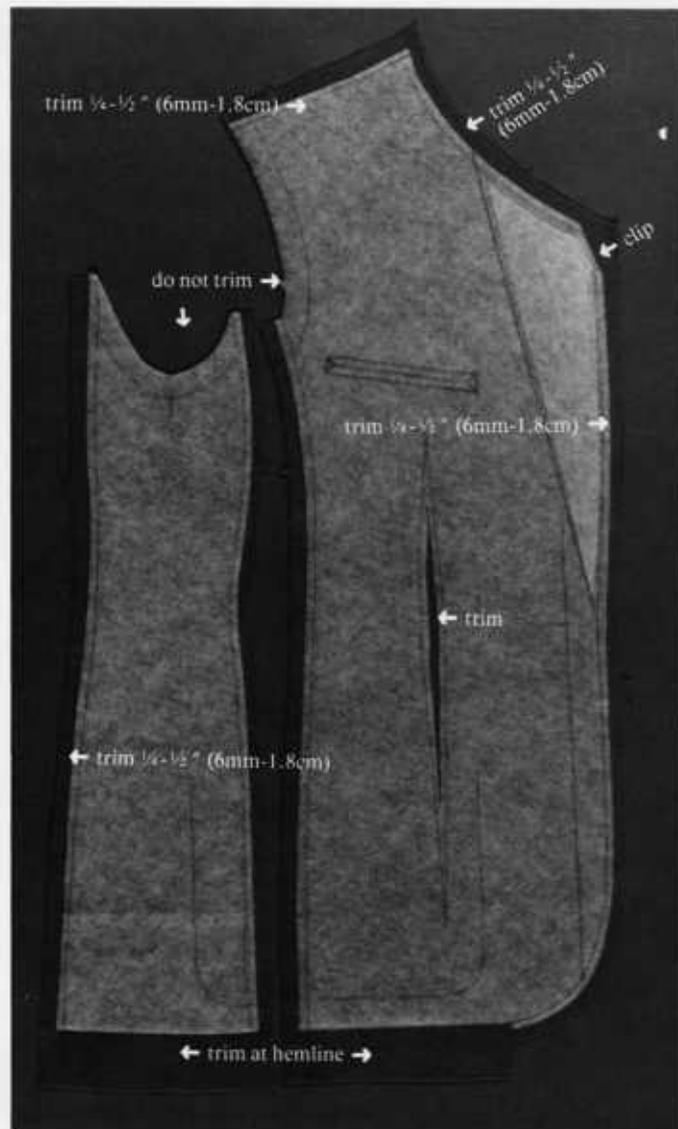

figure 15
- To eliminate bulk from darts, trim most of the interfacing from the dart area. Leave $1/8"$ (3 mm) to be caught into the stitching line (*figure 15*).
- To eliminate bulk in enclosed corners, trim interfacing diagonally across the corners of lapels, pockets, and collars before fusing it to the fashion fabric (*figures 15 and 16*). The amount trimmed away depends on the tendency to ravel and the bulkiness of the fashion fabric.